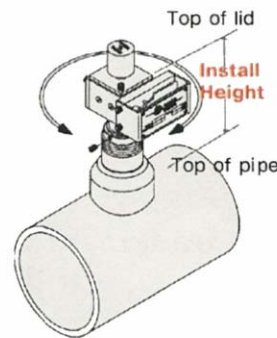

Figure 3
5. Adjust Main Assembly by turning Upper Housing clockwise or counter-clockwise to attain "Install Height" marked on tag located on Upper Housing (Figure 3).